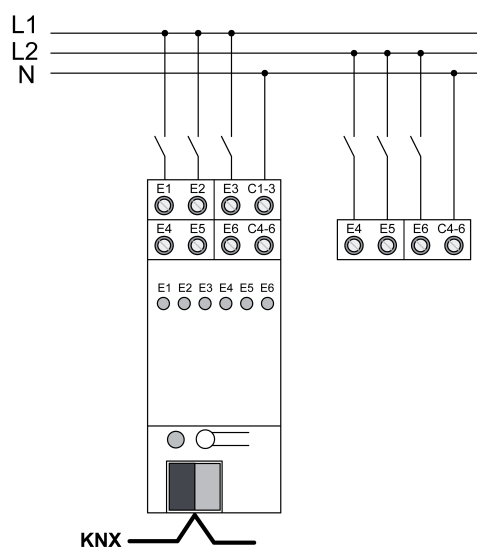

Figure 2: Connecting mains-powered circuits
- Connecting mains-powered circuits according to the connection example (Figure 2).
- Connecting FELV circuits in the same way as mains-powered circuits (Figure 2).